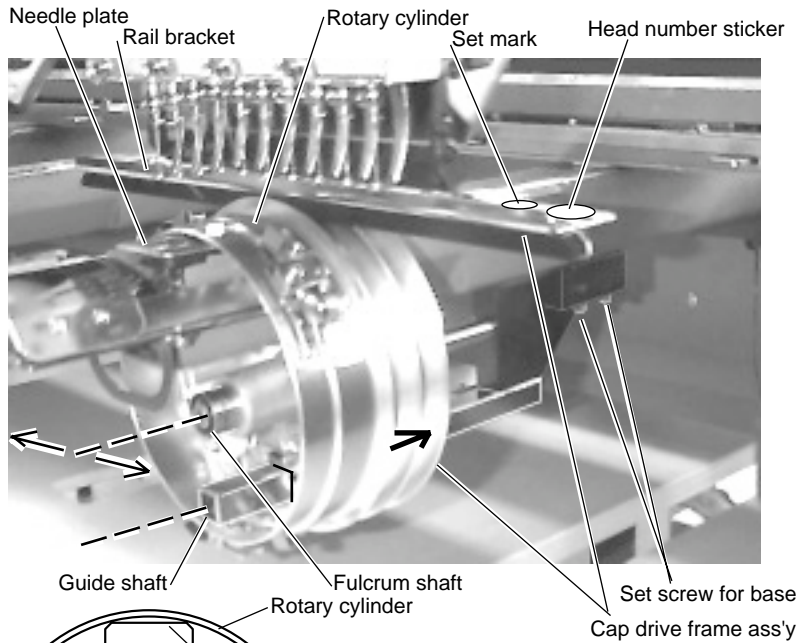

Fig. 1
1. As shown in Fig. 1, insert cap drive frame assembly with head number sticker labeled for respective head in fulcrum shaft and guile shaft.
2. As shown in Fig. 1, place cap drive frame assembly with set screw for base so that upper inside of rotary cylinder hits needle plate without producing gap.